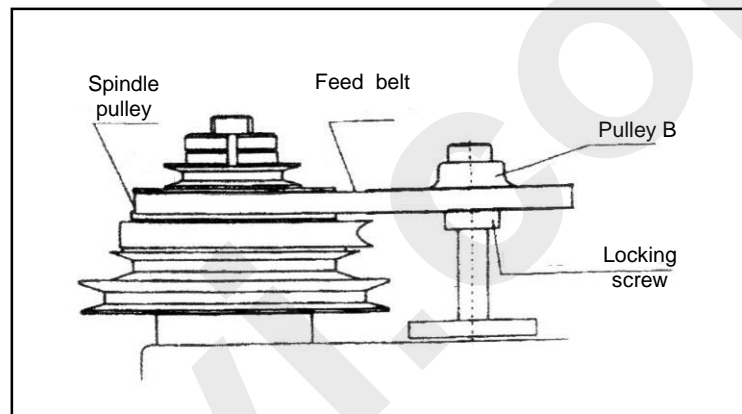

Figure 16 – Main items of the feed system.
4. For a better understanding, see also the following drawing (figure 16).